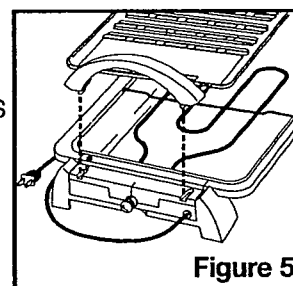

Figure 5
4. Decide if you will be using either the Cooking Plate or the Cooking Grid. Place bottom of Handles into the slots on Base and Heater Assembly. See Figure 5. Check alignment of Handle bottoms with slots in Base and Heater Assembly. If necessary, firmly push Handles into place.